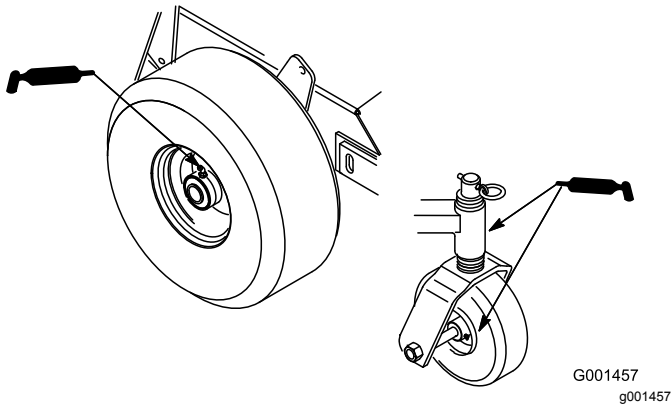

Figure 22
1. Lubricate the front-wheel bearings and front spindles (Figure 22).
2. Lubricate the drive-wheel bearings (Figure 22).